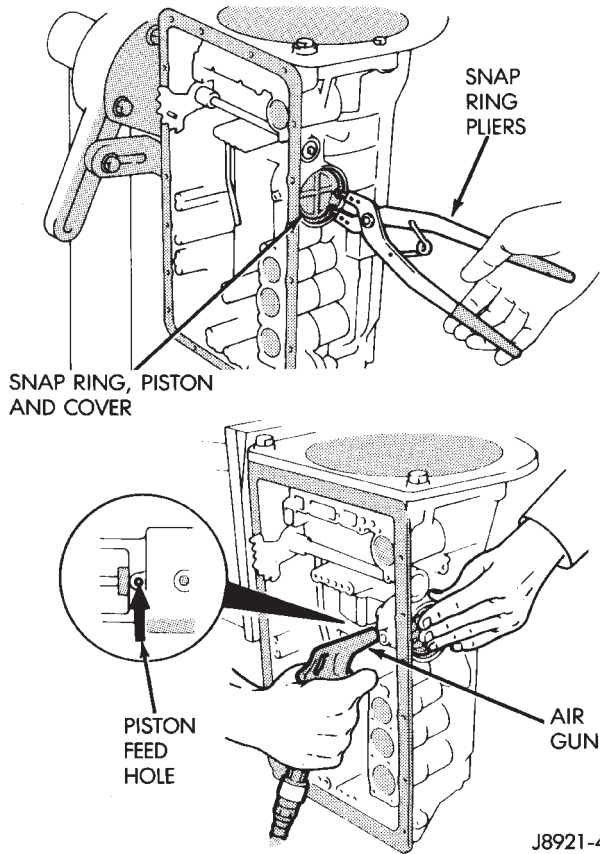

Fig. 28 Removing Second Coast Brake Cover And Piston
(36) Remove second coast brake piston snap ring with Snap Ring Plier Tool 7540. Then remove piston cover and piston assembly with compressed air applied through piston feed hole (Fig. 28).